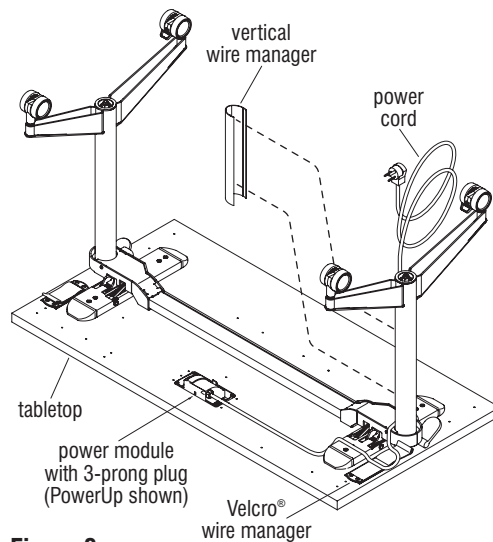

Figure 9
2. Strap in the module cord using the installed Velcro® wire manager (Figure 9).
3. To install vertical wire manager, route the power cord along the leg, then snap the wire manager to the post with the cord in between. Vertical wire manager easily snaps on and off the leg, to add or reconfigure cords (Figure 9).